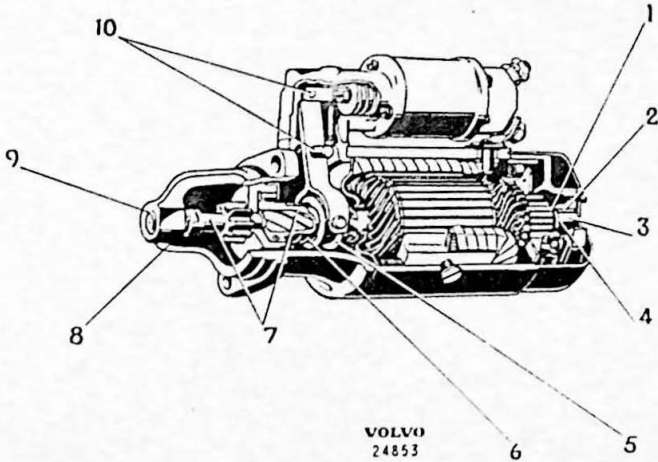

Fig. 10-31. Lubricating the starter motor
2. Fit the starter pinion on the rotor shaft, then put on washers and locking ring as shown in the Fig. Lubricate the rotor shaft as shown in the instructions in Fig. 10-31.